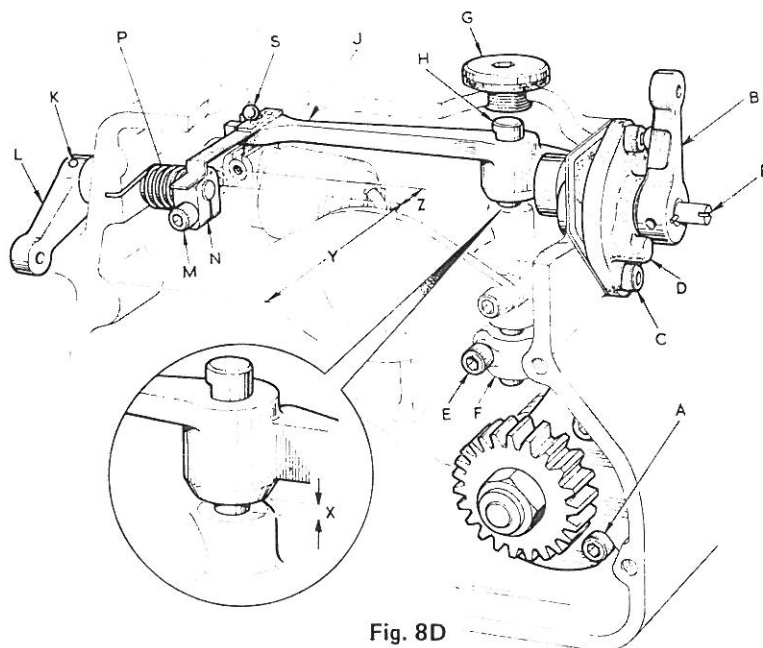

Fig. 8D
**D9-1 TO REMOVE GOVERNOR Fig. 8D.**
- (b) Remove the screws (A) securing the governor assembly to the crankcase and withdraw it.
**D9-2 TO REMOVE GOVERNOR LINKAGE Fig. 8D.**
- (c) Move the stop/run lever (B) to the 'RUN' position, i.e. horizontal.
- (d) Remove the screws (C) securing the governor stop cover (D), or speed control bracket if fitted and remove it.
- (e) Loosen the governor bracket screw (E) and remove the bracket (F), speeder spring and speeder spring plunger.
- (f) Remove the breather assembly (G) and withdraw the shaft (H) and fuel pump operating lever (J).
- (g) If oil is leaking from the overload stop spindle or the return spring is damaged remove the pin (K) securing the overload stop lever (L) and remove the lever. The spindle and return spring (P) can now be withdrawn from the inside of the crankcase.
**D9-3 GOVERNOR AND LINKAGE MAINTENANCE Fig. 8D.**
- (c) If oil leaks at the stop/run lever spindle (R), carefully remove the spindle and renew the oil seal. When refitting the spindle ensure that it is free from burrs.
#### D9-4 TO REPLACE GOVERNOR AND LINKAGE Fig. 8D.
#### D11-7 TO FIT NEW FUEL INJECTION PUMP Fig. 8D.